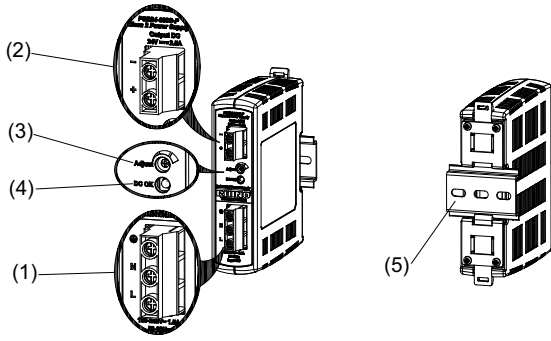
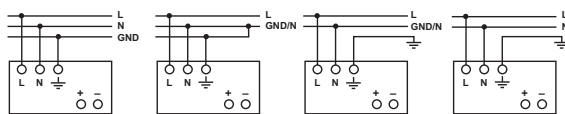

Figure 1
Figure 5
2. Device description (Fig. 1)
5.1. Input connection (Fig. 1, Fig. 5)
Use L, N and GND connections of input terminal connector (see Fig. 1 (1)) to establish the 100-240 VAC connection.
5.2. Output connection (Fig. 1 (2))
Use the "+" and "-" screw connections to establish the 24 VDC connection. The output provides 24 VDC. The output voltage can be adjusted from 22 to 28 VDC on the potentiometer. The green LED DC OK displays correct function of the output (Fig. 1 (4)). The device has a short circuit and overload protection and an overvoltage protection limited to 35 VDC.